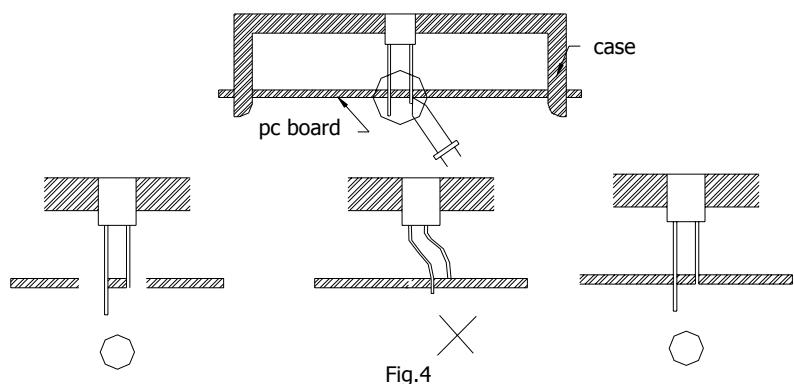

Fig.4
- 1) When mounting the LED to a housing, as shown on Fig.4, ensure that the mounting holes on the PC board match the pitch of the leads correctly. Tolerance of dimensions of the respective components including the LEDs should be taken into account especially when designing the housing, PC board, etc. to prevent pitch misalignment between the leads and holes on PCB, the diameter of the holes should be slightly larger than the size of the lead. Alternatively, the shape of the holes could be made oval. (See Fig.4)